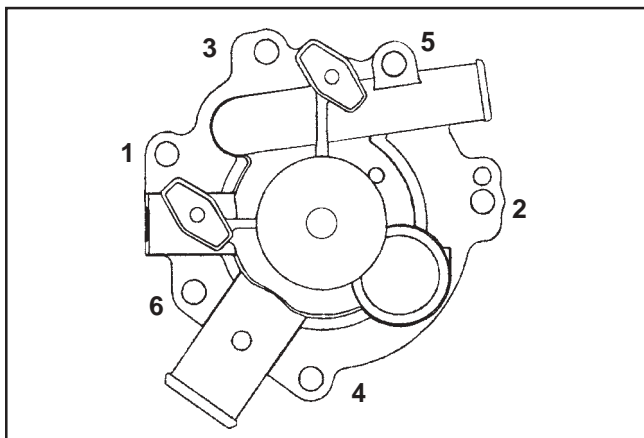

Figure 11-51. Water Pump Torque Sequence.
8. Carefully push the water pump down from the raised position, thereby rotating the tube 90° within the end connections. Guide the pump into position over the O-Ring; aligning the two mounting pins and five screw hole locations. See Figure 11-49. Start all of the screws, with the longer screw nearest the pump outlet. Torque the screws to **9.9 N·m (88 in. lb.)** in the sequence shown in Figure 11-51.